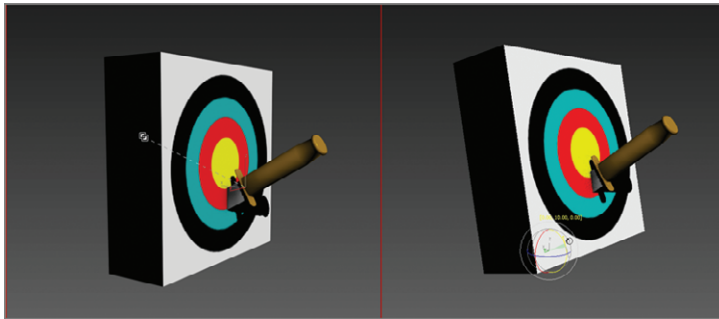

FIGURE 6.14 Link the knife to the target (left), and then rotate the target in the X axis (right).
3. Select the knife and drag it to the target, as shown in Figure 6.14 (left).
5. With the Select And Rotate tool, select the Target object and rotate it back about 5 degrees, as shown in Figure 6.14 (right).